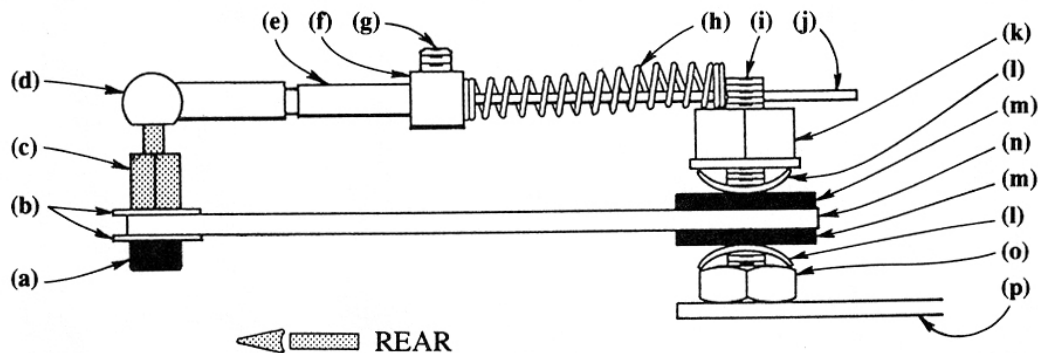

fig. 1
**STEP 1** Slide the screw (i) up through the radio tray (p) and assemble the parts onto it as shown (fig. 1).